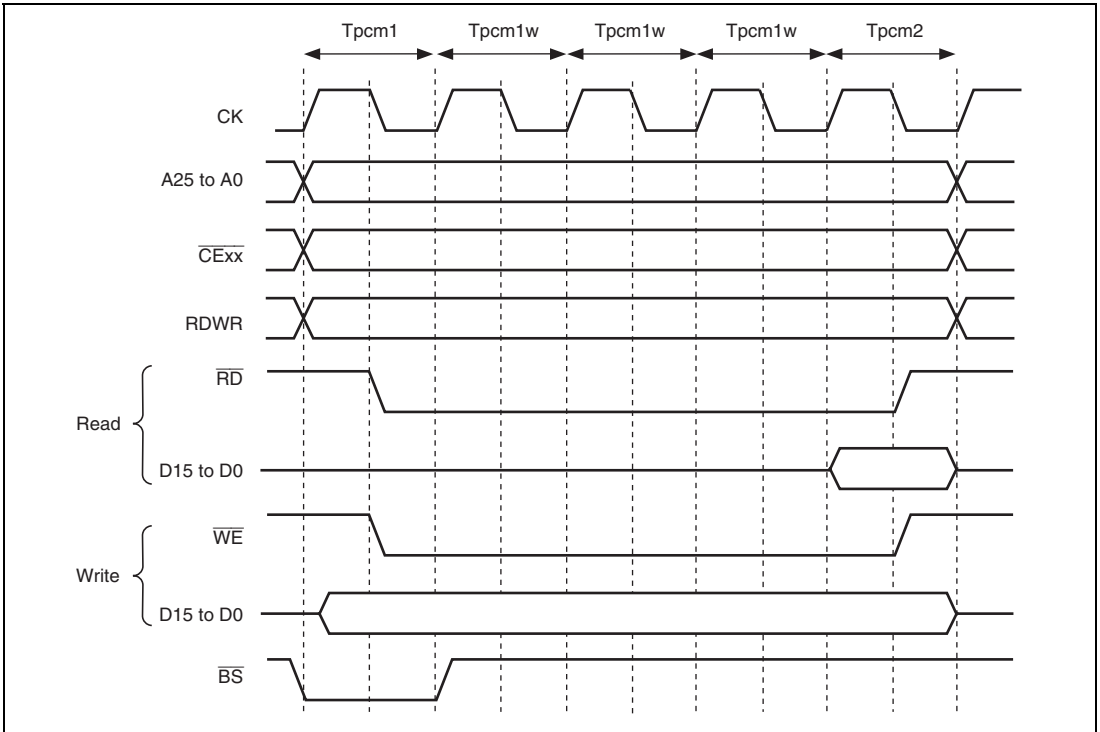
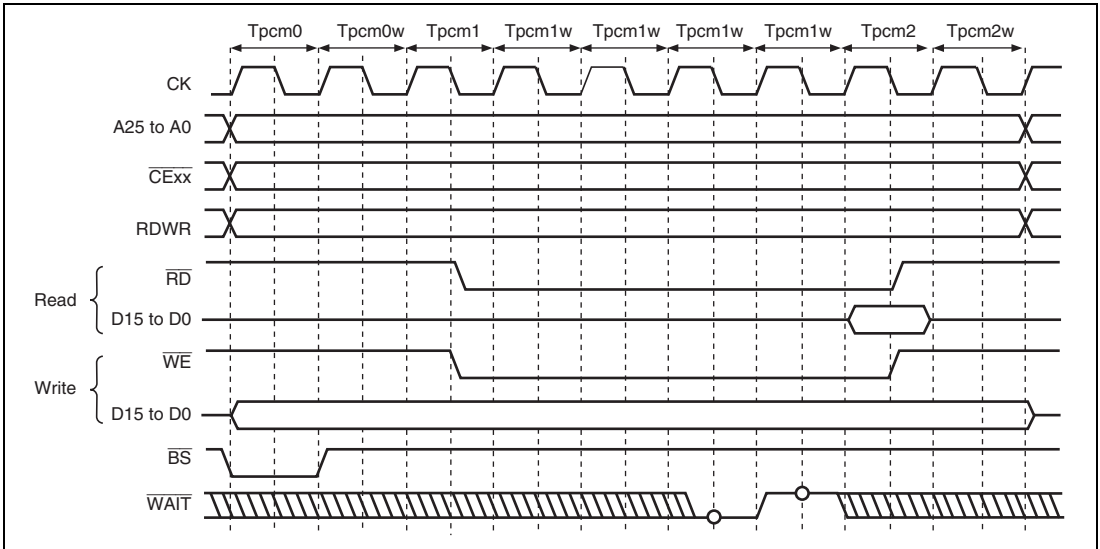

Figure 9.38 Basic Access Timing for PCMCIA Memory Card Interface
Figure 9.39 Wait Timing for PCMCIA Memory Card Interface
Basic Timing for Memory Card Interface: Figure 9.38 shows the basic timing of the PCMCIA IC memory card interface. If areas 5 and 6 are specified as the PCMCIA interface, accessing the common memory areas in areas 5 and 6 automatically accesses the bus with the IC memory card interface. If the external bus frequency (CK) increases, the setup times and hold times for the address pins (A25 to A0), card enable signals (CE1A, CE1B, CE2A, CE2B), and write data (D15 to D0) to the \overline{RD} and \overline{WE} signals become insufficient. To prevent this error, this LSI enables the setup times and hold times for areas 5 and 6 to be specified independently, using CS5WCR and CS6WCR. In the PCMCIA interface, as in the normal space interface, a software wait or hardware wait using the \overline{WAIT} pin can be inserted. Figure 9.39 shows the PCMCIA memory bus wait timing.